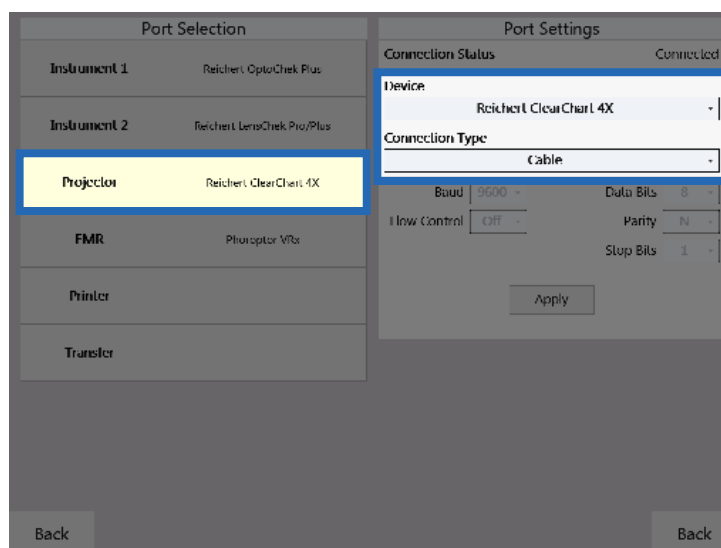

Figure IS-07, Port Settings Screen
3. In the Port Selection panel, tap the port being configured (e.g., Projector, Instrument 1, etc). Refer to Figure IS-07.
4. In the Port Settings panel, select the device being connected from the drop-down menu. Refer to Figure IS-07.
5. Set the Connection Type to **Cable**. Refer to Figure IS-07.